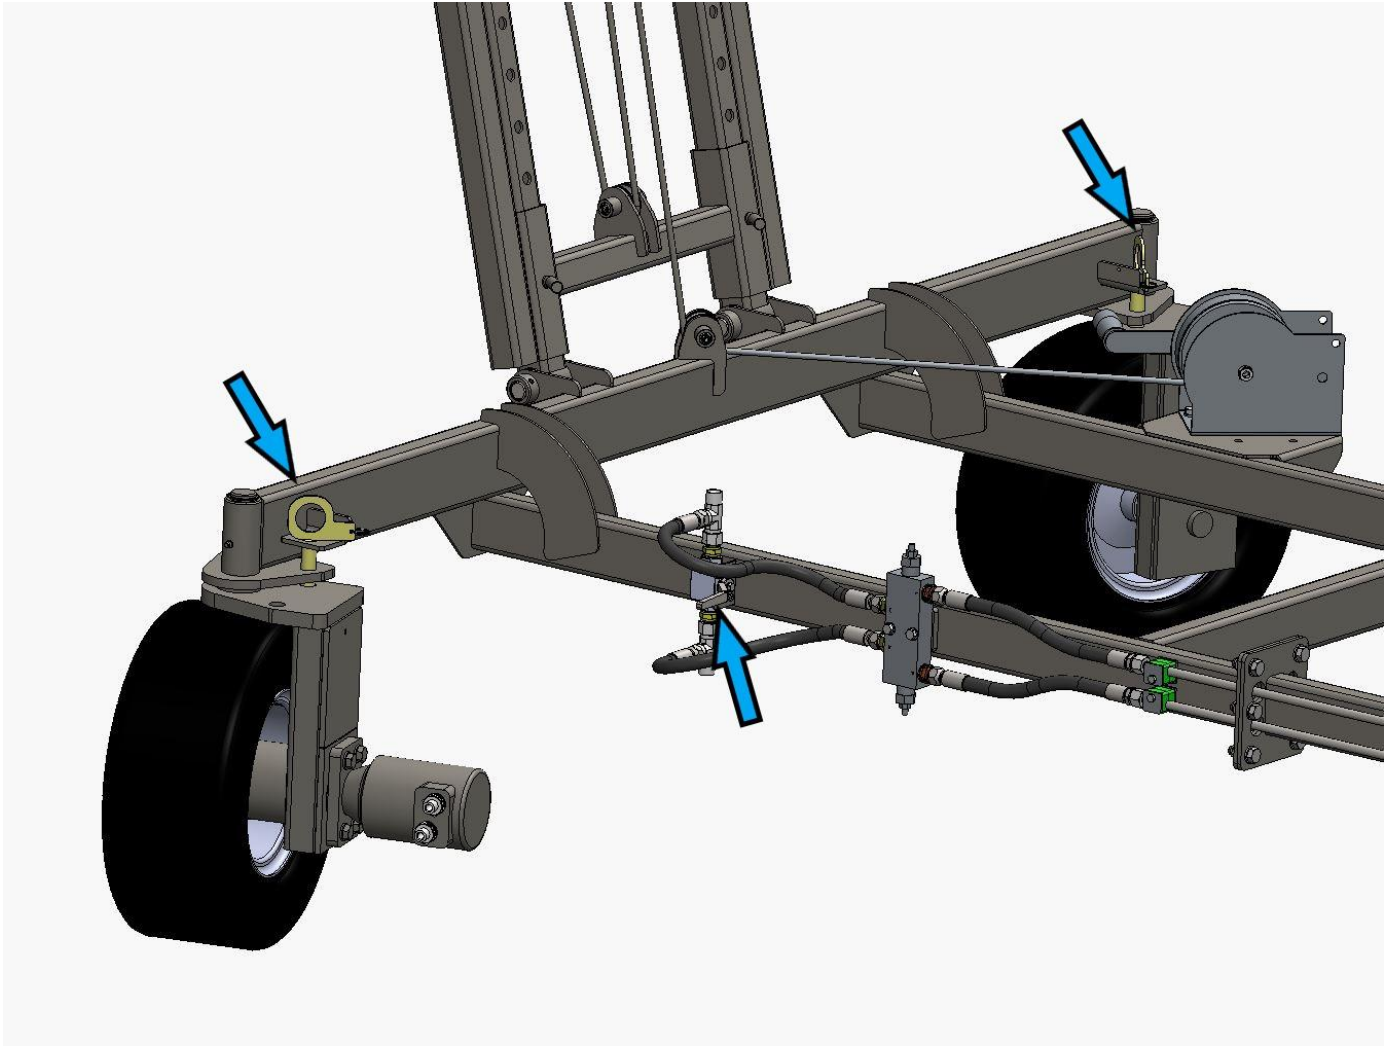

Figure 5.
1. Lift the wheel locking rods (Figure 5) to the upper position, and turn the wheels to the correct position, as shown in Figure 5.
3. Turn the valve indicated with an arrow in Figure 5 to the horizontal position so that hydraulic oil can flow into the wheel's drive motor.